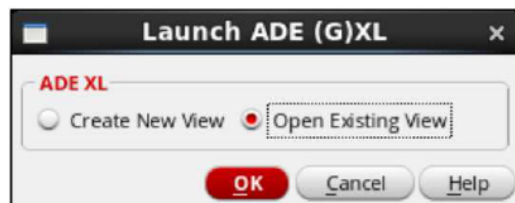

Figure 11. Option with copied adexl setup
- To copy the ADE-Explorer setup and re-define “Analysis method”, “Variables” or “Output signal/Measurement” based on your recent setting. You need to choose “**Open Existing View**” instead of “**Create New View**” as **Figure 11**.